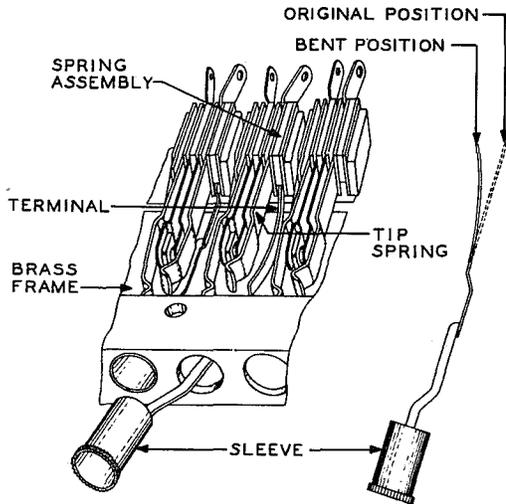

FIG. 7 - METHOD OF INSERTING SLEEVE INTO 141 TYPE JACK
3.13 Before inserting the new sleeve on 141 and similar type jacks, bend the sleeve terminal toward the center line of the sleeve so that the vertical section back of all bends forms an arc and the extreme end of the terminal is offset about 1/4" from its natural position as shown in Fig. 7.
3.15 On 141 and similar type jacks, hold the sleeve so that the terminal is at the bottom for 1/2" thick mountings as shown in Fig. 7 and at the top for 11/16" thick mountings. Carefully locate the opening in the spring
assembly at the rear of the mounting with the end of the terminal. This opening can best be located by holding the terminal against the side of the tip spring as shown in Fig. 7 and allowing it to follow this spring back and toward the brass frame of the mounting until the opening is reached. In the case of 1/2" thick mountings, the tip spring is to the right and the brass frame is at the bottom. In the case of 11/16" thick mountings, the tip spring is to the left and the brass frame is at the top. Observe from the rear of the switchboard whether or not the terminal is properly located.